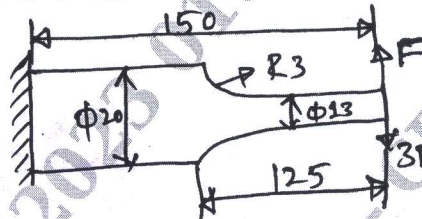

Fig.Q3(b)
- b. A cantilever beam made of cold drawn carbon steel ($\sigma_u = 550$ MPa, $\sigma_y = 470$ MPa, $\sigma_{-1} = 275$ MPa) of circular cross-section is subjected to load which varies from $-F$ to $3F$. Determine the maximum load that this member can withstand for an infinite life using a factor of safety of 2. [Refer Fig.Q3(b)] (12 Marks)